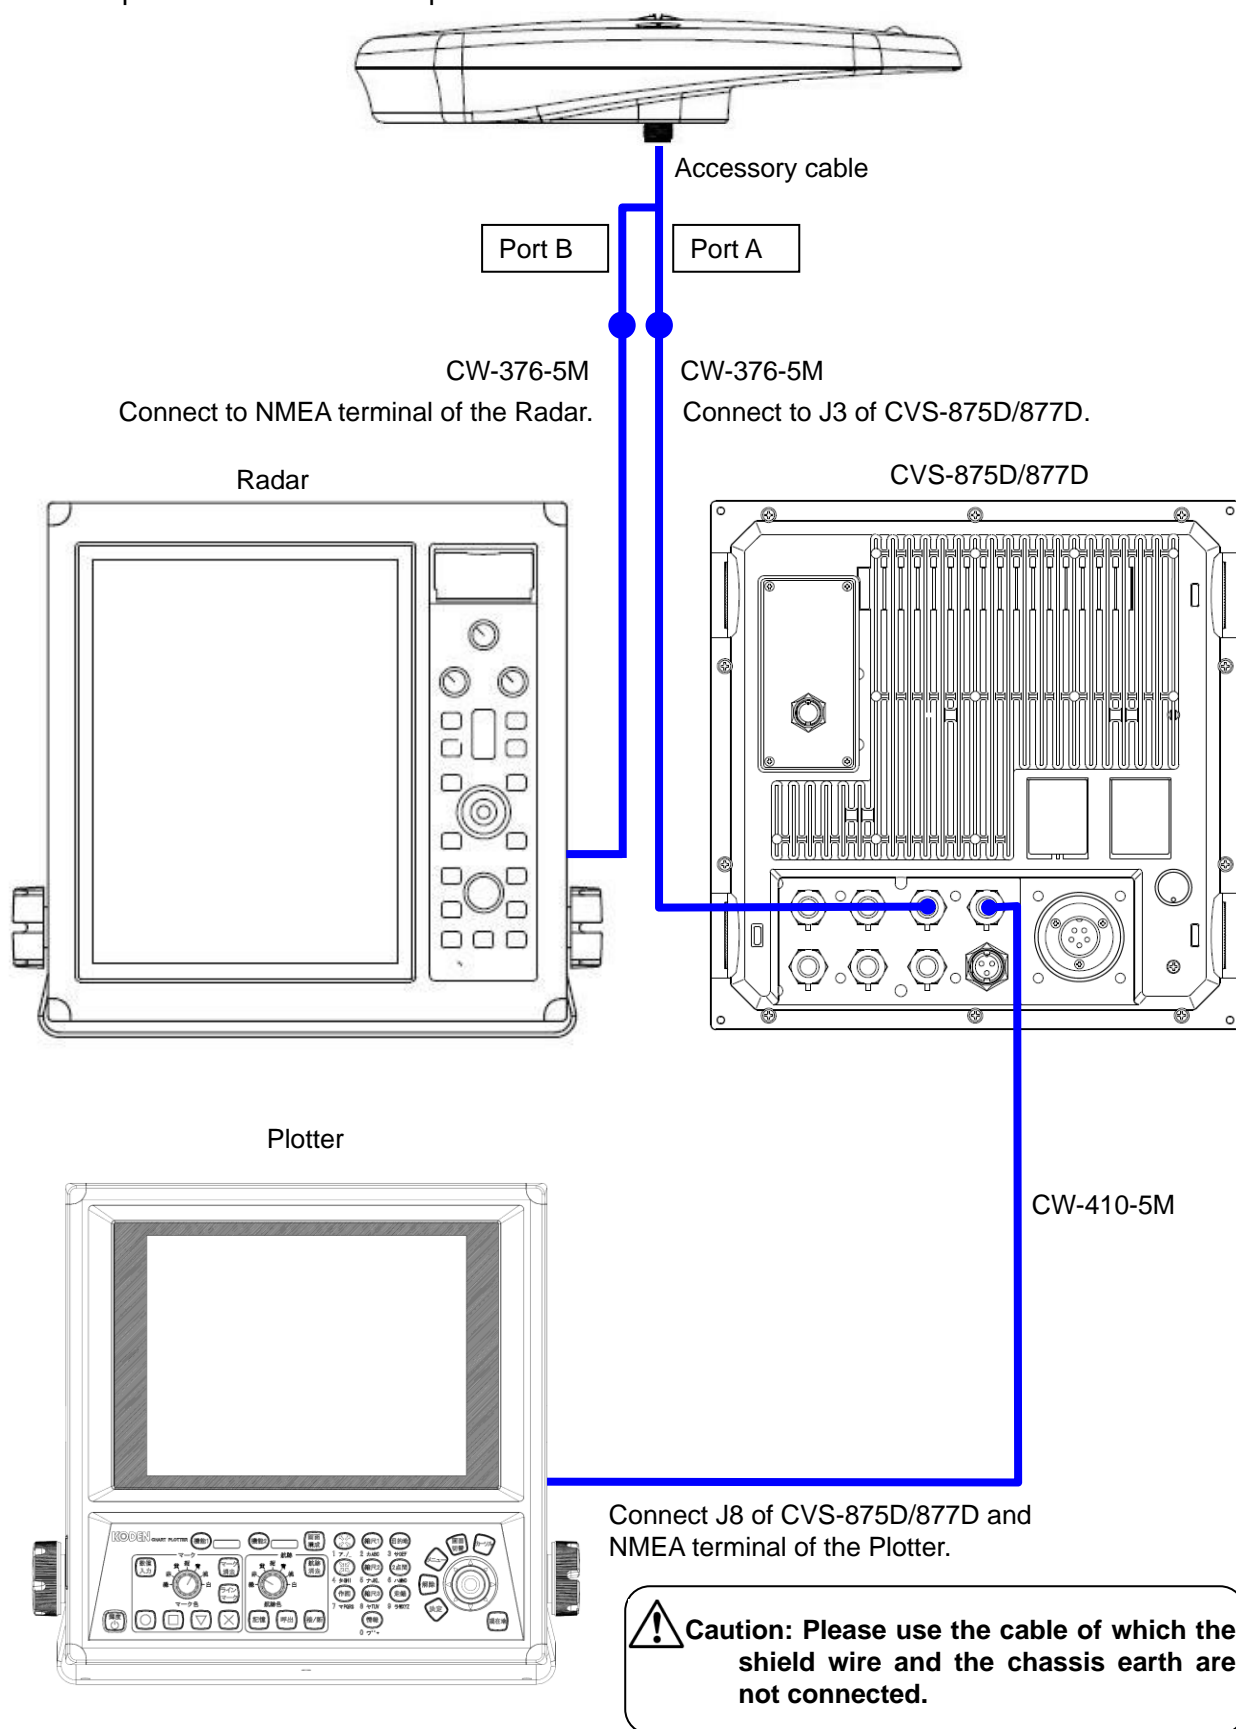

Fig. 1.68 The general connection chart 4
- 3) Connect CW-376-5M to NMEA terminal of Radar after soldering with Port C when connecting with Radar as GPS compass. Refer to **“Fig. 1.68 The general connection chart 4”**.
- 4) Refer to **“Fig. 1.68 The general connection chart 4 to Fig. 1.70 The general connection chart 6”**, connect other equipment to communicate NMEA with the terminal J8 of CVS-875D/877D.